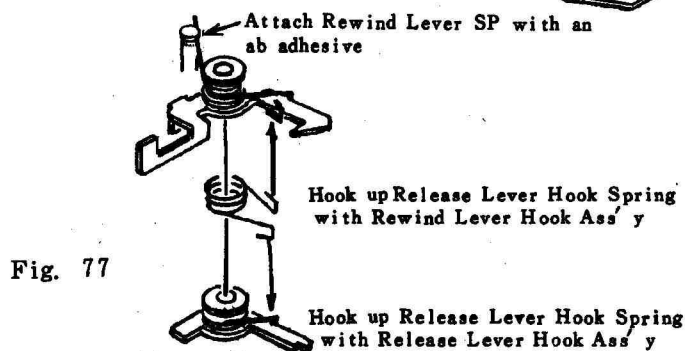

Fig. 77
12. Install the Rewind Lever Hook Ass'y (1AAAA690), and hook up the Release Lever Hook Spring with both the release Lever Hook Ass'y and the Rewind Lever Hook Ass'y. (See Fig 77)
13. Install the Rewind Lever Hook Spring (1AAAA690), hook up the both ends with Rewind Lever Hook Ass'y and the post respectively and attach with an adhesive (Cemedine 551A). (See Fig. 77)
14. Install the Rewind Coupling Plate (2) Ass'y (1AAAA500).
15. Install the Rewind Coupling Plate (1) Ass'y to the Winding Unit Sub Ass'y.